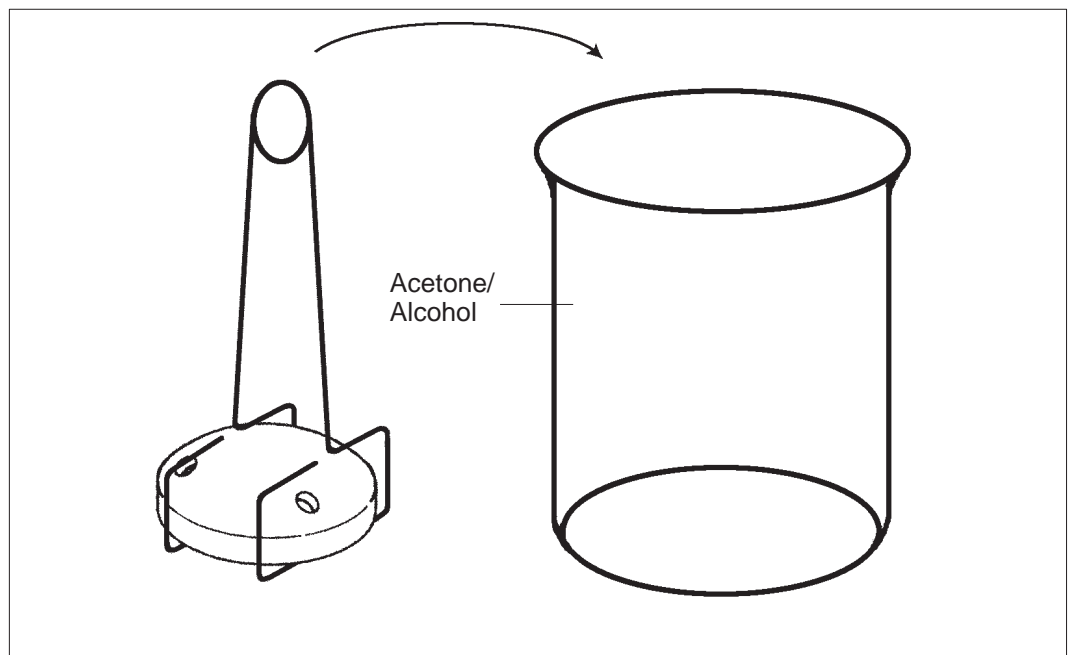

Fig. 6-6: Chemical cleaning of the electrodes
- Assemble parts 5 to 7 according to Fig. 6-6.